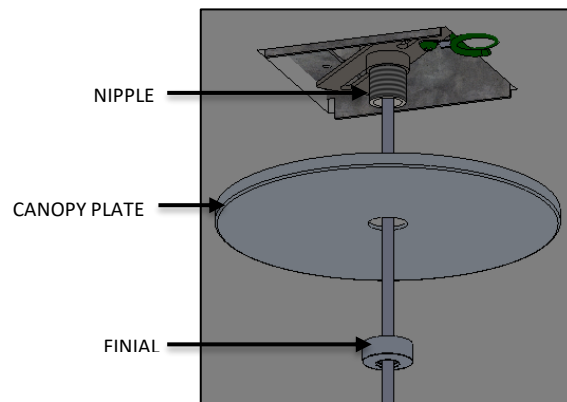

FIG. 35 – FINIAL ASSEMBLY
30. Raise CANOPY PLATE and secure to ceiling by threading the FINIAL to the NIPPLE (available in MOUNTING BRACKET ASSEMBLY) as shown below in FIG. 35.